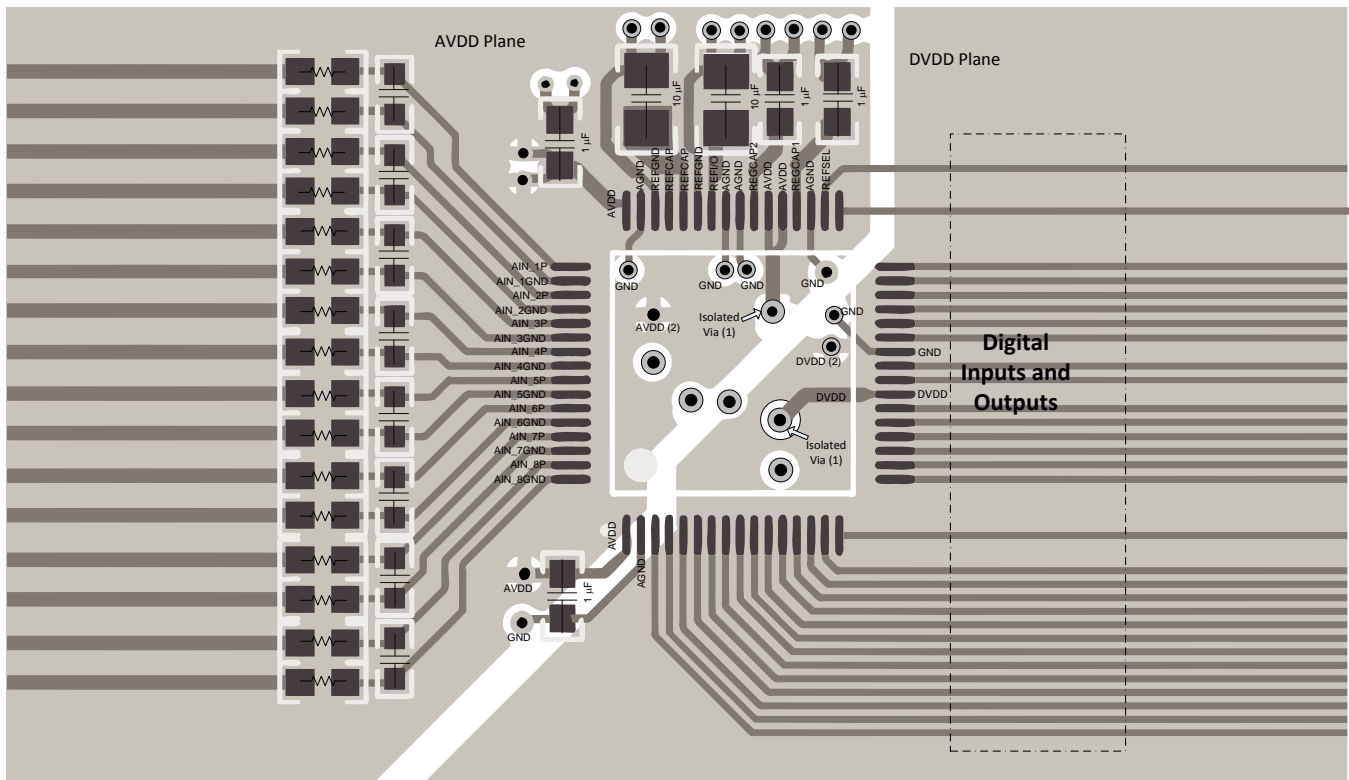
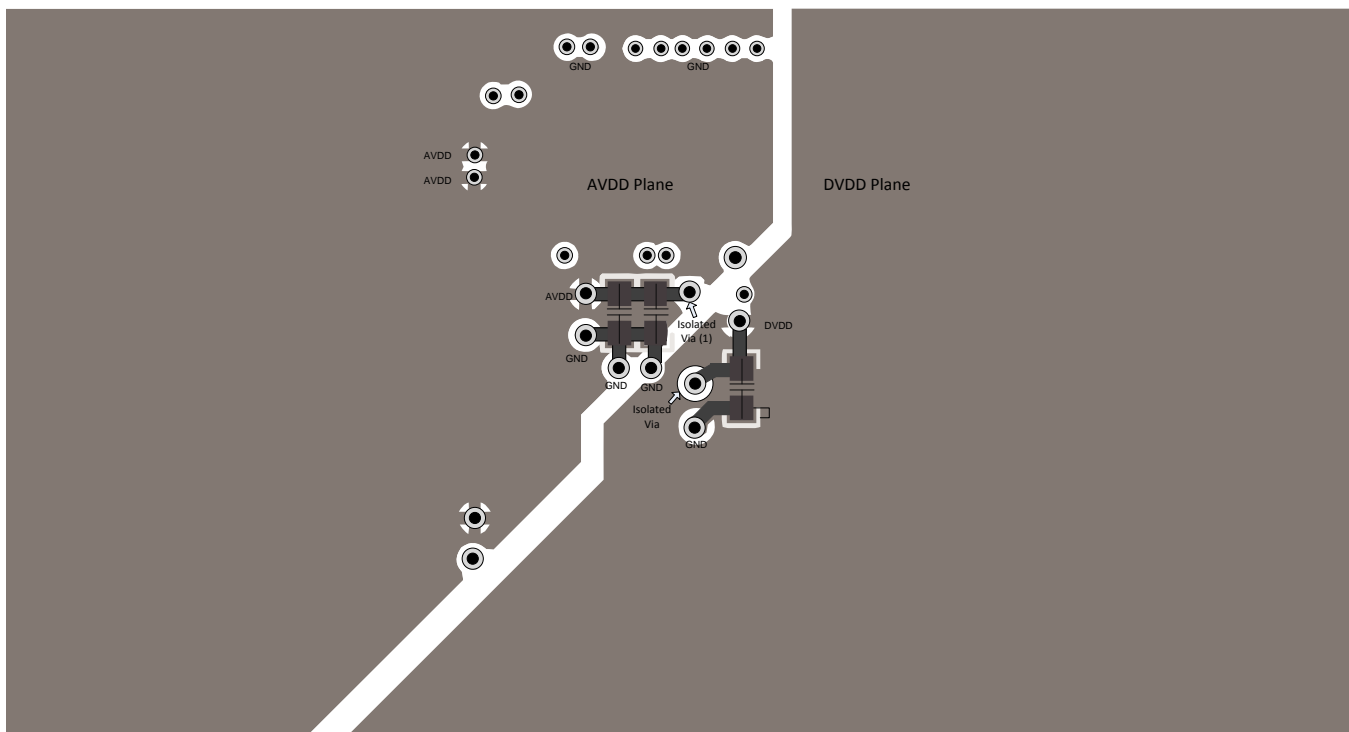

Figure 90. Top Layer Layout
Figure 91. Bottom Layer Layout
Figure 90 and Figure 91 illustrate a PCB layout example for the ADS8598H.
- Power sources to the ADS8598H must be clean and well-bypassed. As a result of dynamic currents during conversion, each AVDD must have a decoupling capacitor to keep the supply voltage stable. Use wide traces or a dedicated analog supply plane to minimize trace inductance and reduce glitches. Using a 1- μ F, X7R-grade, 0603-size ceramic capacitor is recommended in close proximity to each analog (AVDD) supply pin. Bypass capacitors for AVDD pins 1 and 48 are located on the top layer; see Figure 90. AVDD supply pins 37 and 38 are connected to bypass capacitors in the bottom layer using an isolated via (1); see Figure 91. A separate via (2) is used to connect the bypass capacitor to the AVDD plane.
- For decoupling the digital (DVDD) supply pin, a 1- μ F, X7R-grade, 0603-size ceramic capacitor is recommended. The DVDD bypass capacitor is located in the bottom layer; see Figure 91.
Figure 90 and Figure 91 illustrate a recommended layout for the ADS8598H along with proper decoupling and reference capacitor placement and connections.